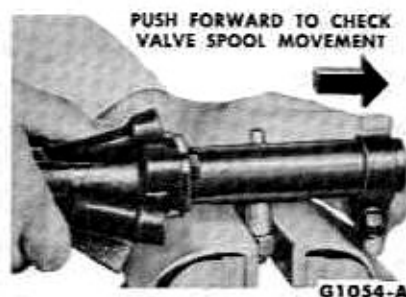

FIG. 16—Valve Spool Movement Inspection
17. Install the nut on the ball stud so that the valve can be positioned in a vise as shown in Fig. 16. Then push forward on the cap end of the valve to check the valve spool for free movement.